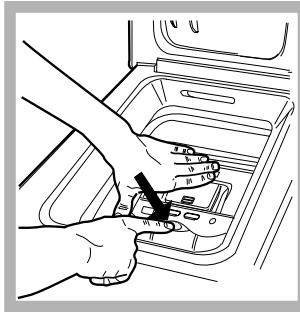

Fig. 2
B) Then open the drum using both hands as shown in Fig. 2:
- press the button indicated by the arrow in Fig. 2 lightly downwards, with one hand firmly resting on the doors to prevent them from suddenly opening and hurting your fingers;